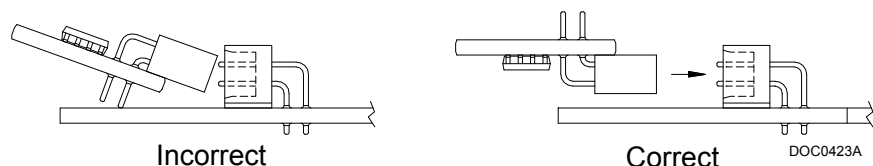

Figure 2-1. License Key Installation
6. Press the license key into the terminal until it is firmly seated (refer to *Figure 2-1*).